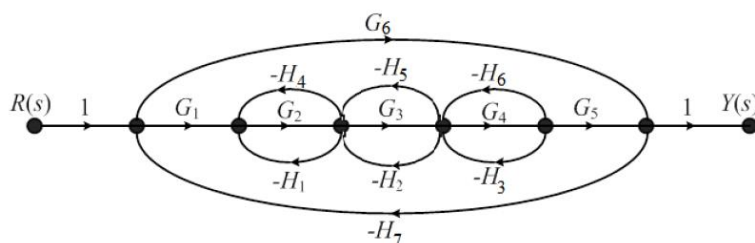

Figure 4
- 3A.** Consider the control system whose signal flow graph is shown in Figure 4. Determine the system transfer function using Mason's formula. (05)